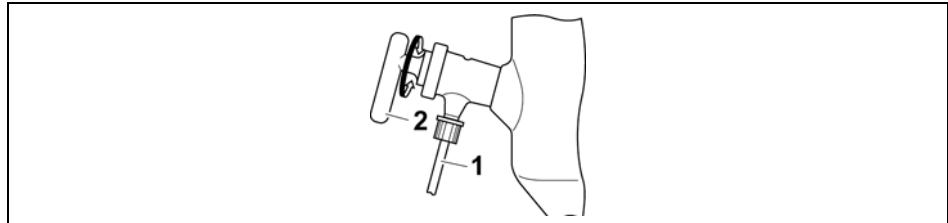

Fig. 4-23: Inlet hose
The system can be aerated via the cock plug (Fig. 4-23 (2)) of the inlet pipe:
➔ Turn the cock plug (Fig. 4-23 (2)) of the inlet pipe slowly upward.